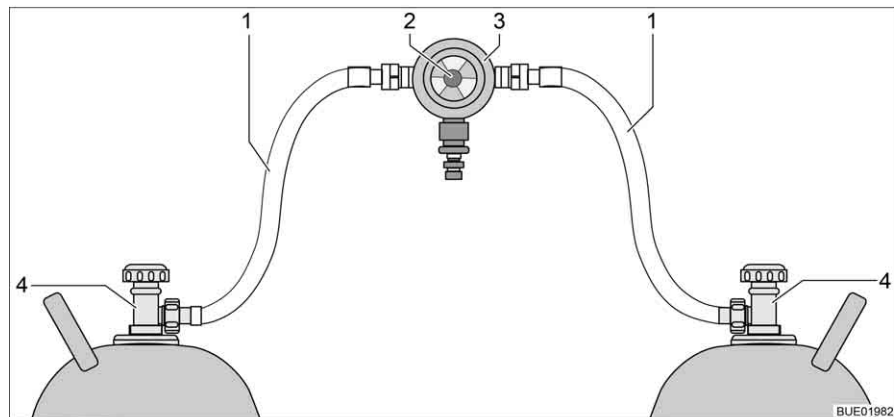
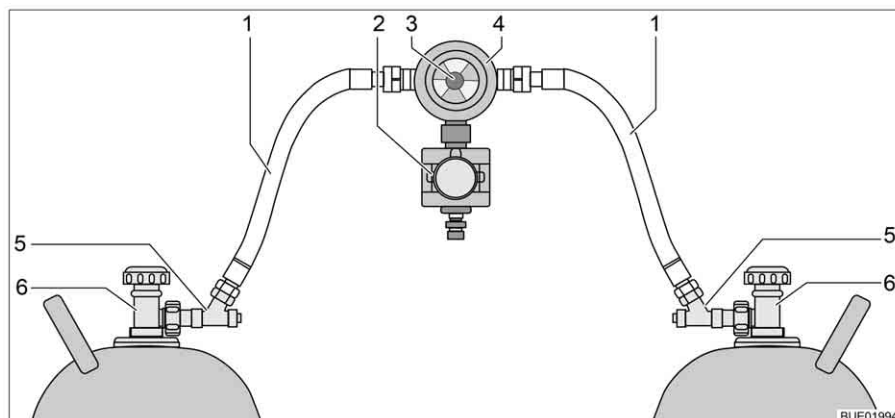

Fig. 109 Gas bottle switching facility
Fig. 110 Gas bottle switching facility with CPU
The gas bottle switching facility consists of a combined gas pressure regulator with reversing valve and indicator (Fig. 109,3). The gas bottle switching facility is installed between the two gas tubes (Fig. 109,1).
The gas bottle switching facility consists of a combined gas pressure regulator with reversing valve and indicator (Fig. 110,4), and an electrovalve (Fig. 110,2). The electrovalve blocks the gas supply to the vehicle in the event of a full braking, an accident, or an unusually great inclined position. The gas bottle switching facility is installed between the two gas tubes (Fig. 110,1) with hose break guards (Fig. 110,5).
Use the knob (Fig. 109,2 or Fig. 110,3) on the gas bottle switching facility to select which of the gas bottles is to be used as a primary bottle and which is to be used as a reserve bottle.
Only the electrical functions can be switched at the operating unit (Fig. 111). The regulator taps on the gas bottles (Fig. 109,4 or Fig. 110,6) must be opened and closed manually.
- Open the regulator taps of the gas bottles (Fig. 109,4 or Fig. 110,6).
- Press the hose break guards (Fig. 110,5) successively for 10 seconds.
- Use the knob (Fig. 109,2 or Fig. 110,3) on the switching facility to select the gas bottle which is to be the primary source of gas (primary bottle). Always turn the knob as far as it will go.
- Close the regulator taps of the gas bottles (Fig. 109,4 or Fig. 110,6).